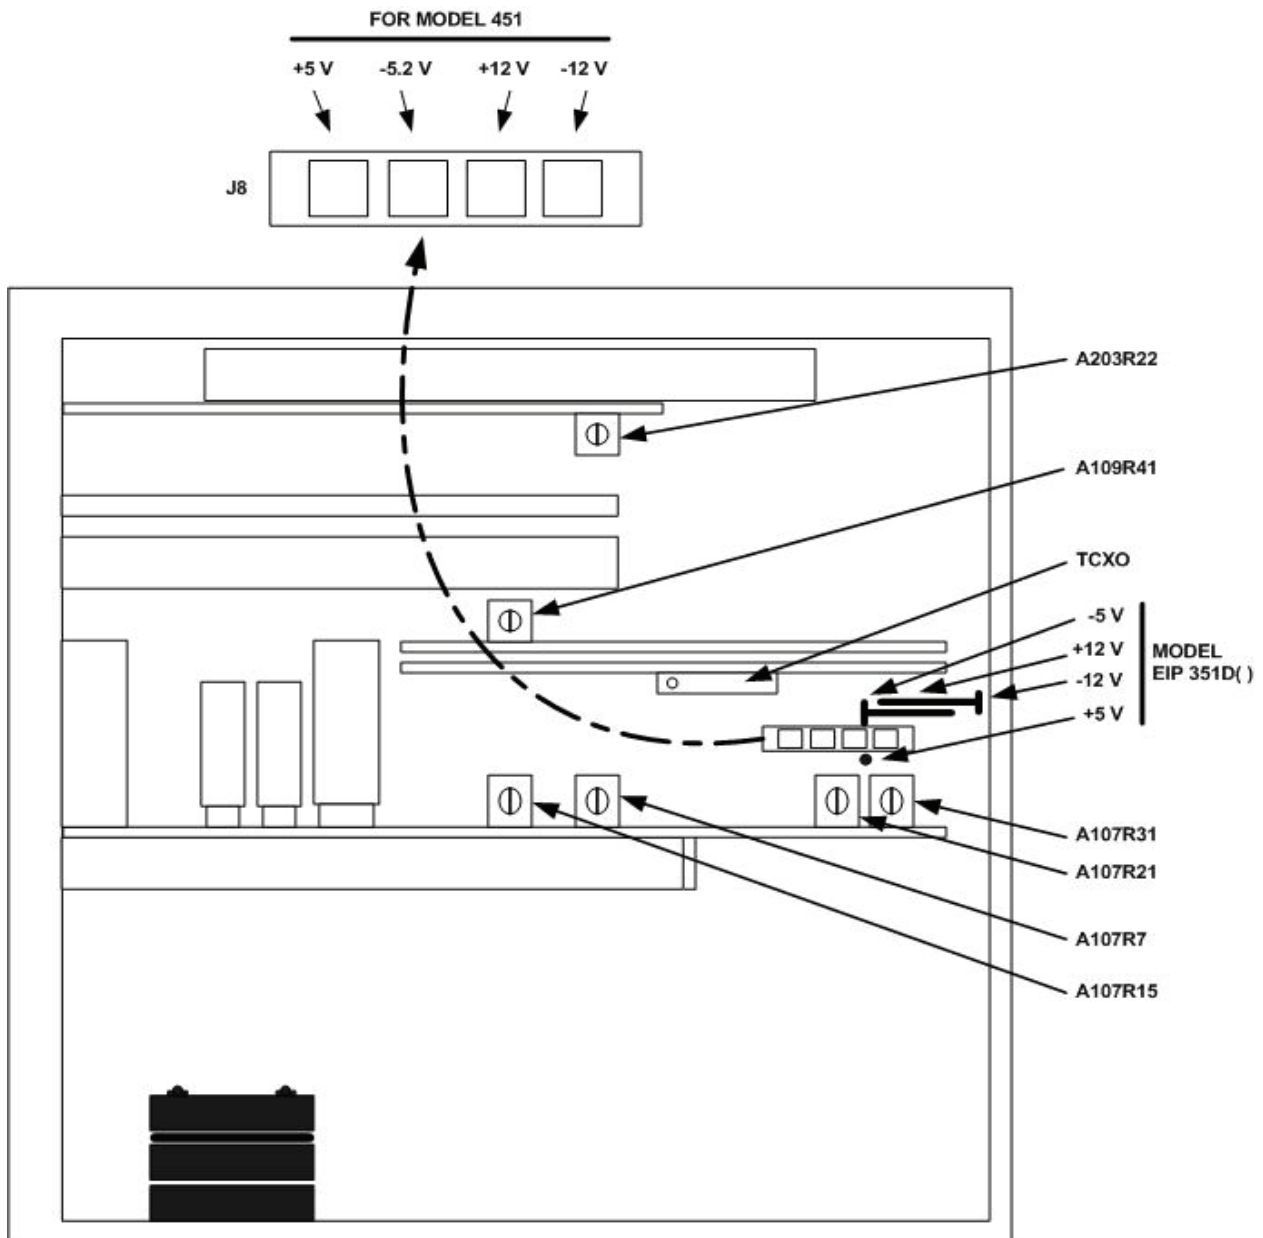

Figure 1. Test instrument - top view.
- (1) Connect multimeter between $+12\text{V}$ test point (fig. 1) and chassis ground. If multimeter does not indicate between 11.99 and 12.01 V dc, adjust A107R7 (fig. 1).
- (2) Connect multimeter between $+5\text{V}$ test point (fig. 1) and chassis ground. If multimeter does not indicate between 4.99 and 5.01 V dc, adjust A107R15 (fig. 1).
- (3) Connect multimeter between -12V test point (fig. 1) and chassis ground. If multimeter does not indicate between -11.99 and -12.01 V dc, adjust A107R21 (fig. 1).
- (4) Connect multimeter between -5V test point (fig. 1) and chassis ground. If multimeter does not indicate between -5.19 and -5.21 V dc, adjust A107R31 (fig. 1).
(1) Disconnect external time base input, if applicable, from rear panel **10 MHz** jack of TI, and set **TIME BASE INT-EXT** switch to **INT**.
(2) Connect time/frequency workstation **OUTPUT 1 MHz** to frequency difference meter **REF INPUT**.
(3) Connect TI **TIME BASE 10 MHz** (rear panel) to frequency difference meter **SIG INPUT**.
(4) Adjust TCX0 (fig. 1) for frequency difference meter indication of less than 1 part in 10^9 .
(5) Disconnect frequency difference meter from TI.
(6) Replace external time base input if removed in (1) above and set **TIME BASE INT-EXT** switch to **EXT**.
- (1) Set signal generator frequency to 100 MHz and level output to -15 dBm.
- (2) Adjust A109R41 (fig. 1) until TI displays a stable count of applied frequency (R).
- (3) Slowly reduce signal generator level output until TI display becomes erratic.
- (4) Readjust A109R41 (fig. 1) until TI indication drops to all zeros.
(1) Set signal generator frequency to 8 GHz and level output to -20 dBm.
(2) Slowly reduce signal generator level output while pressing **RESET** switch until TI no longer accurately displays applied frequency.
(3) Adjust A203R22 (fig. 1) until TI again displays a stable indication of applied frequency (R).
(4) Repeat (2) and (3) above until TI displays a stable indication of applied frequency at -30 dBm or less input level.
Optimum setting of A203R22 (fig. 1) provides stable display of applied frequency at -30 dBm or less and an indication of 0 below the threshold level.
(1) Connect multimeter between -5.2V test point (fig. 1) and chassis ground. If multimeter does not indicate between -5.19 and -5.21 V dc, adjust A107R31 (fig. 1).
(2) Connect multimeter between -12V test point (fig. 1) and chassis ground. If multimeter does not indicate between -11.99 and -12.01 V dc, adjust A107R21 (fig. 1).
(3) Connect multimeter between +12V test point (fig. 1) and chassis ground. If multimeter does not indicate between 11.99 and 12.01 V dc, adjust A107R7 (fig. 1).
(4) Connect multimeter between +5V test point (fig. 1) and chassis ground. If multimeter does not indicate between 4.99 and 5.01 V dc, adjust A107R15 (fig. 1).